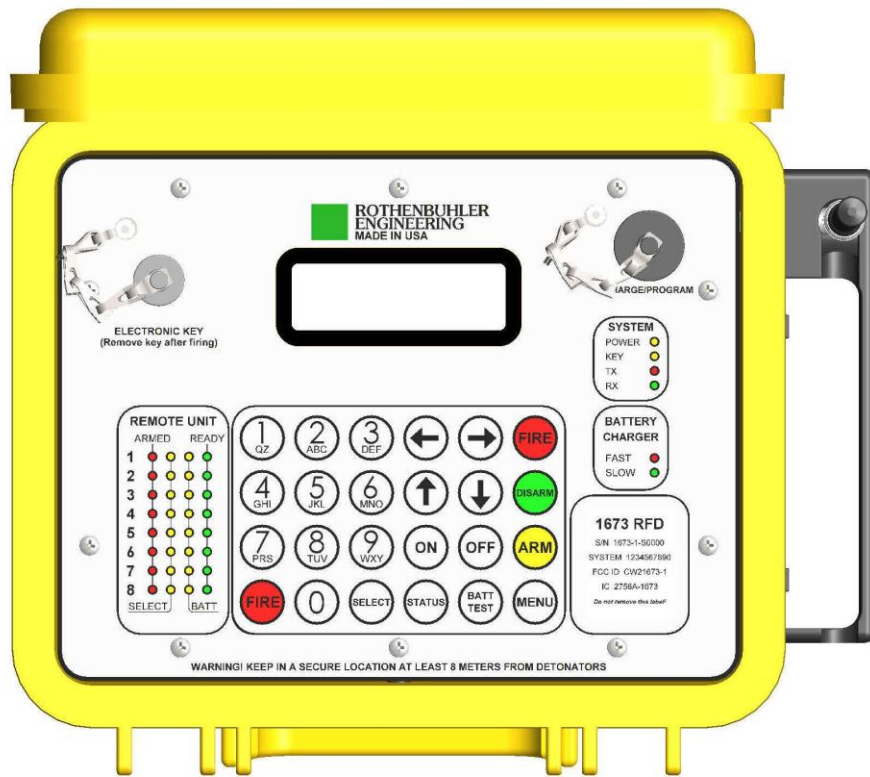

Figure 4-4 Controller Unit Face Panel
4.2.2. When the area is clear and all shots are prepared, insert the enable key into the Controller Unit in the Electronic Key port shown in Figure 4-4. The yellow KEY light will turn on.